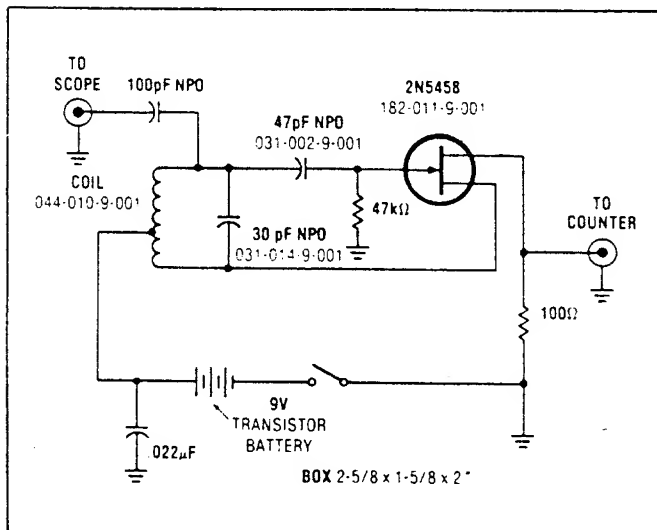

Fig. 14. Test oscillator for input capacitance calibration.
2. Fabricate the test oscillator shown in Fig. 14. Connect the output of the test oscillator to a frequency counter. Connect the CH A INPUT jack of the oscilloscope as the tuning capacitor of the test oscillator.